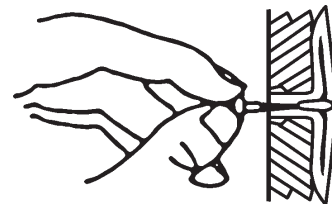

Figure 9 - Popping Open
4. For thin walls (1/2 inch or less), insert red key into wall anchor. Push red key to “pop” open anchor wings (see Figure 9).